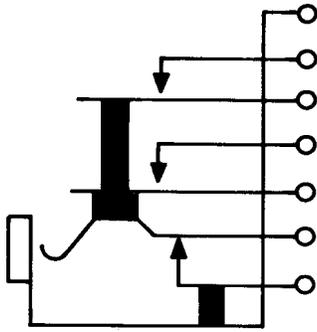

Fig. 15—394C Jack
2.15 **394C:** This single-mounted jack (Fig. 15) is used with the 347 or similar-type plugs. This jack is intended to be mounted with the springs in a vertical plane.